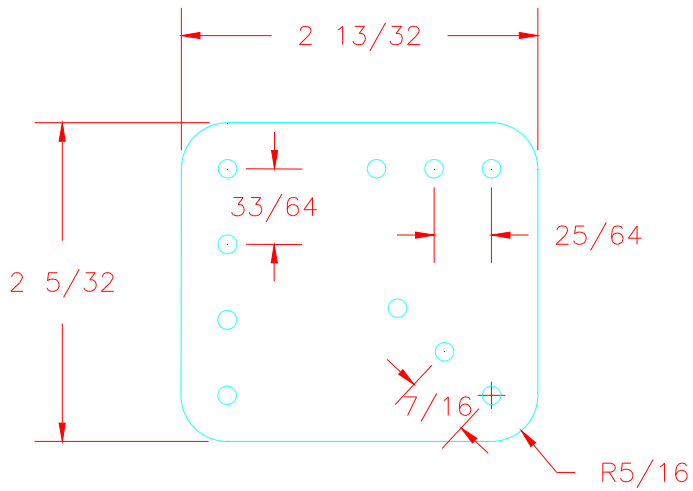

Figure 15.4.1
1) Cut four of each gusset from excess .025 or .032 material to the size shown. Round the corners and drill #30 holes where indicated. Figure 15.4.1 and 15.4.2.